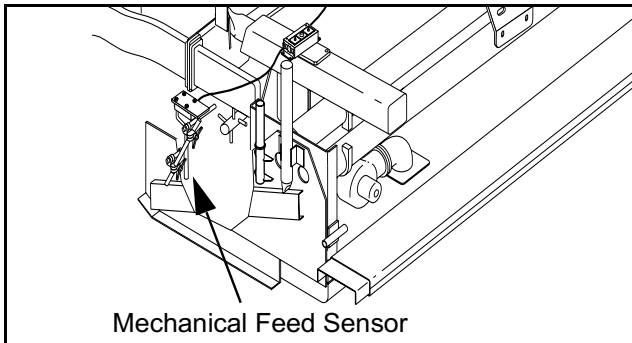

Figure 4 - 38 Mechanical feed sensor
- 6) If a mechanical feed sensor is used, clean the wand with solvent and wipe any asphalt off of the feed controller with a cloth dampened with solvent. (Figure 4 - 38)